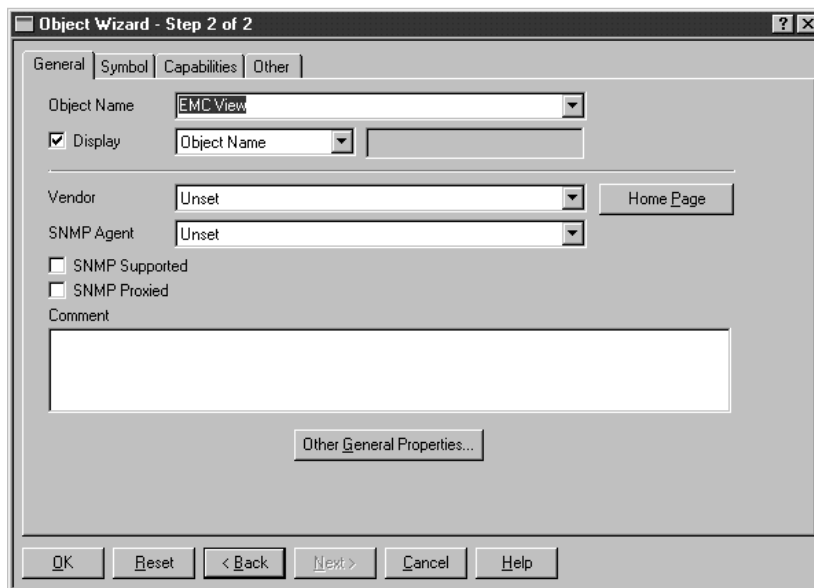

Figure 8-12 Object Wizard Selection Window
3. Select **EMC_Gateway**, and then click **Next**. The Object Wizard selection window appears (Figure 8-12).